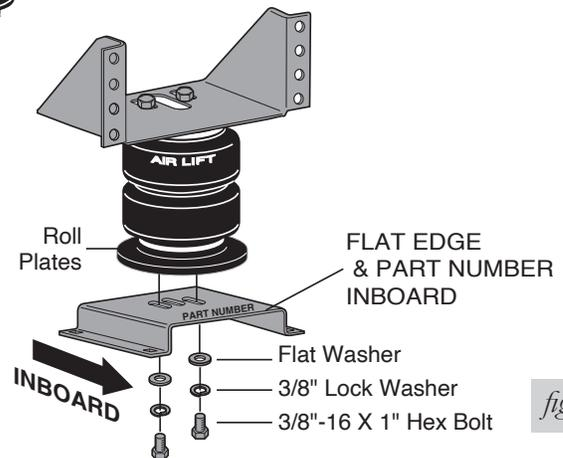

fig. 5
2. Attach the lower bracket to the air spring with the two 3/8"-16 x 7/8" bolts, lock washers, and flat washers (Fig. 5).